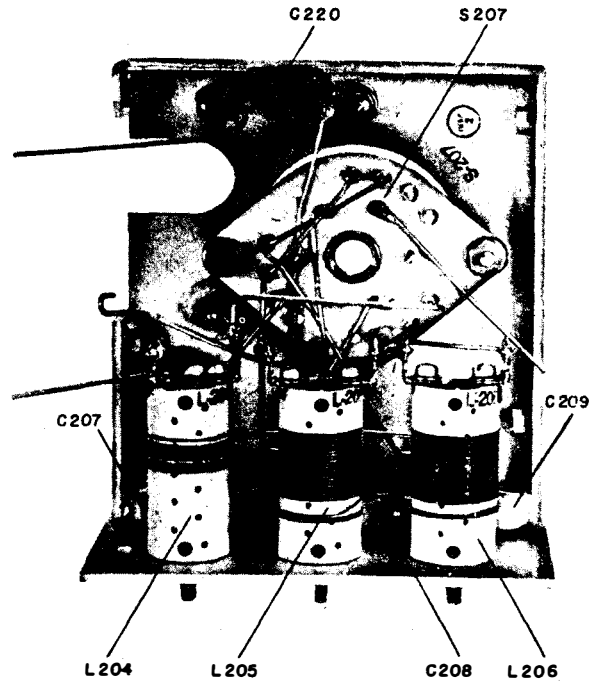

Figure 2-13 Converter Assembly, Side View
**b. CONVERTER.** (See figures 2-13, 2-14.)—A type 12SA7 pentagrid tube is employed as the converter V202. This tube is excited by a separate oscillator V203 except during periods of crystal-controlled operation. When crystal reception has been selected by the operation of the OSCILLATOR SELECTOR switch S202, a section of V202 operates as the oscillator to self-excite the converter. The full 225 volts are applied to the plate through the primary of the i-f transformer Z201 and screen voltage for the tube is obtained through the dropping resistor R205 in series with the plate-supply voltage. When the transmitter carrier is on, this screen voltage is removed from V202 by the operation of the carrier-control relay K103 in the transmitter. The AVC voltage is applied to the grid of the converter tube through the grid resistor R209.